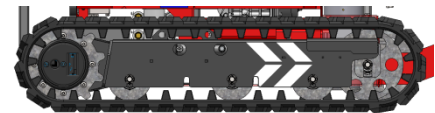

Figure: 13
- The driving direction is indicated by an arrow on the crawler track undercarriage (see figure 13).